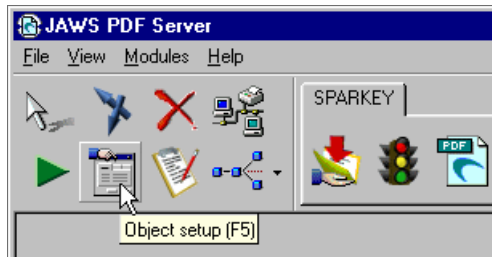

Figure 4.6 Click the Setup tool
- Select the module and click the Setup tool in the Control toolbar, Figure 4.6.